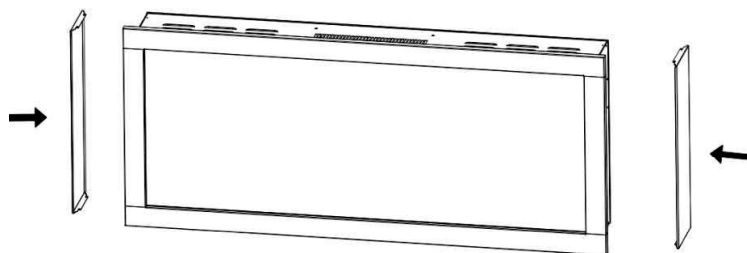

Fig. 4-4
- A. Attach the side skirt panel (J) to each side of firebox. (Fig. 4-4)